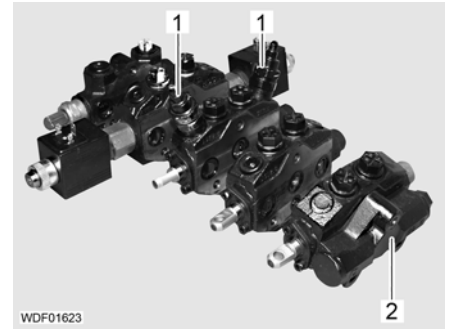

Fig. 239 Segments of the control valve
- Raise individual segments (Fig. 239).
- Remove end plate (Fig. 239,2).